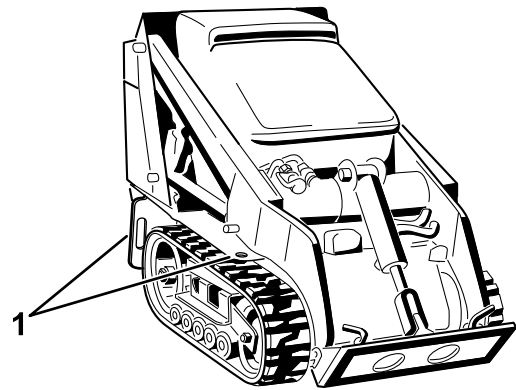

Figure 21
8. Use the metal tie-down loops on the machine to securely fasten the machine to the trailer or truck with straps, chains, cable, or ropes (Figure 21). Refer to local regulations for tie-down requirements.
You can lift the machine using the tie-down/lift loops as lift points; refer to Figure 21.